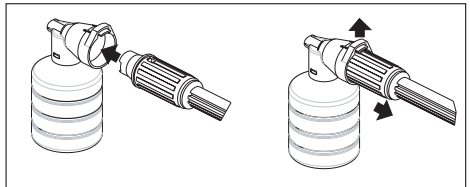

Figure 12 – Turn lance to obtain wide fan pattern.
5. For detergent applicators that fit on end of lance, turn lance to obtain wide fan pattern. (**Detergent suction will not work when lance is adjusted to provide a narrow pattern.**) Connect applicator to end of lance. Make sure connection is secured correctly. (See figure 12.)